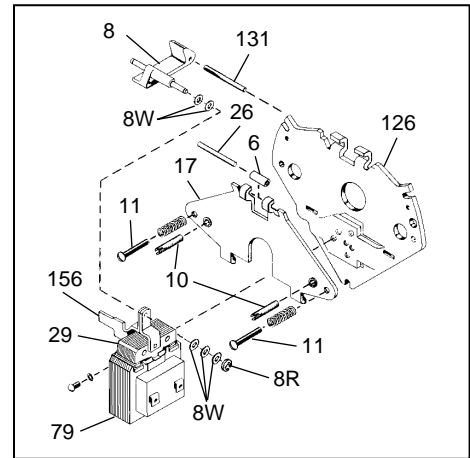

Figure 3
Preconnect coil for appropriate high or low voltage as shown in Figure 3. On these coils observe the lead numbering sequence for proper connections as follows:
- Refer to Figures 3 and 8. Insert screwdriver between support plate (126) and lever arm (17). Wedge apart and remove bearing pin (26), bearing (6), pin (131) and solenoid lever (8), connected to solenoid link (156) and plunger (29).